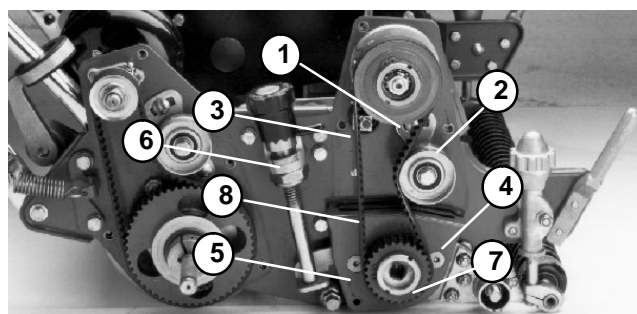

Figure 29
11. Use a 1/2-inch drive ratchet and extension to reinstall drive pulley and reel drive belt to cutting reel shaft. Torque drive pulley from 40 to 60 ft-lb (5.5 to 8.3 kg-m) (Fig. 29).
13. On older model, pivot idler pulley assembly against the reel drive belt. Apply 20 to 25 lb (89 to 111 N) of force to the idler pulley. Tighten both carriage bolts securing the reel idler bracket to the frame (Fig. 29).